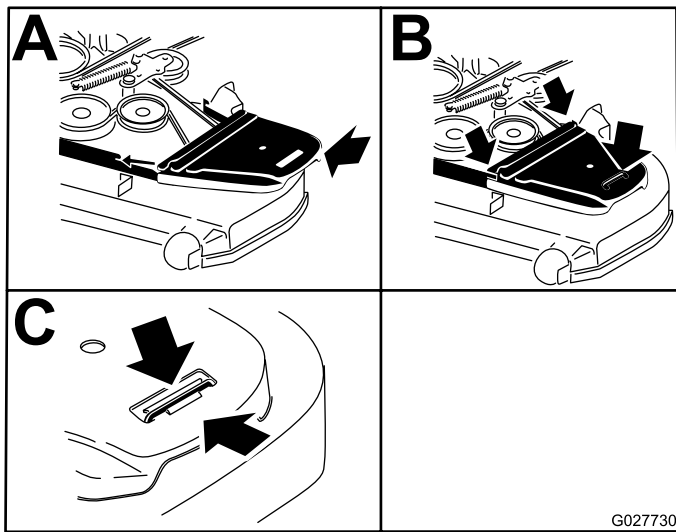

Figure 80
14. Install the belt covers (Figure 80).